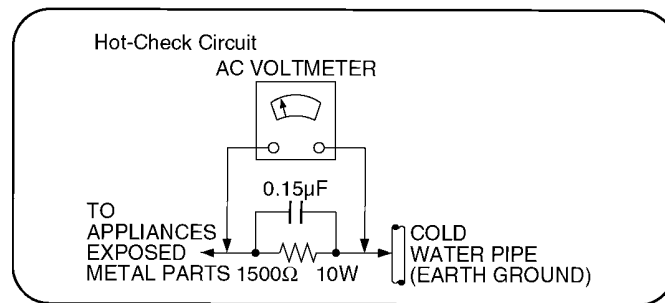

Figure 1
1.1.2. Leakage Current Hot Check (See Figure 1.)
2. Connect a 1.5kΩ, 10 watts resistor, in parallel with a 0.15µF capacitors, between each exposed metallic part on the set and a good earth ground such as a water pipe, as shown in Figure 1.